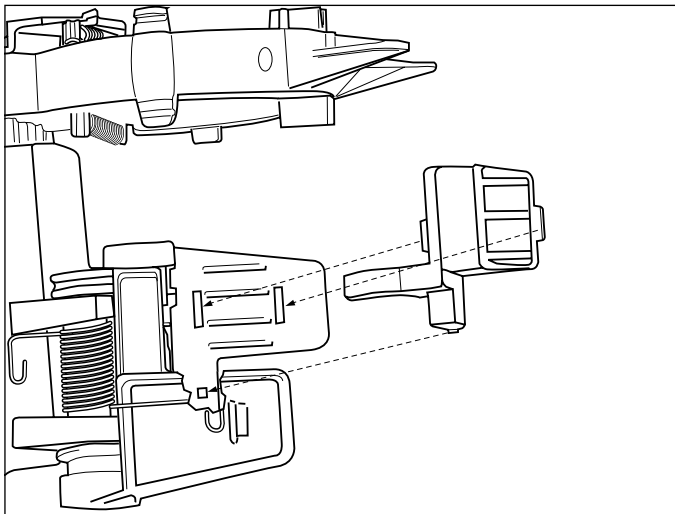

Figure 6.
2. For applications where the cable diameter is less than 1", leave the clamp pads attached to the clamp arms. On installations where the cable diameter exceeds 1", remove the pads that are attached to each clamping arm. Removing the pads will allow the clamping mechanism to properly attach to larger diameter cables. (See Figure 6.)